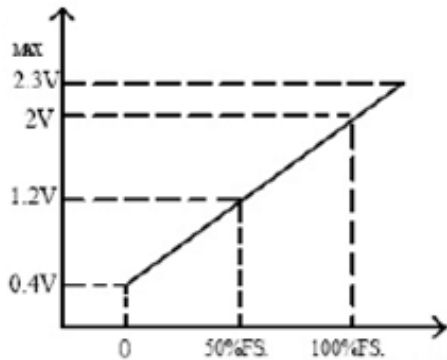

figure1
- ① The V_{out} of the sensor output 0.4V~2VDC voltage signal, linear corresponding 0-100% FS. Range.As shown in figure1: